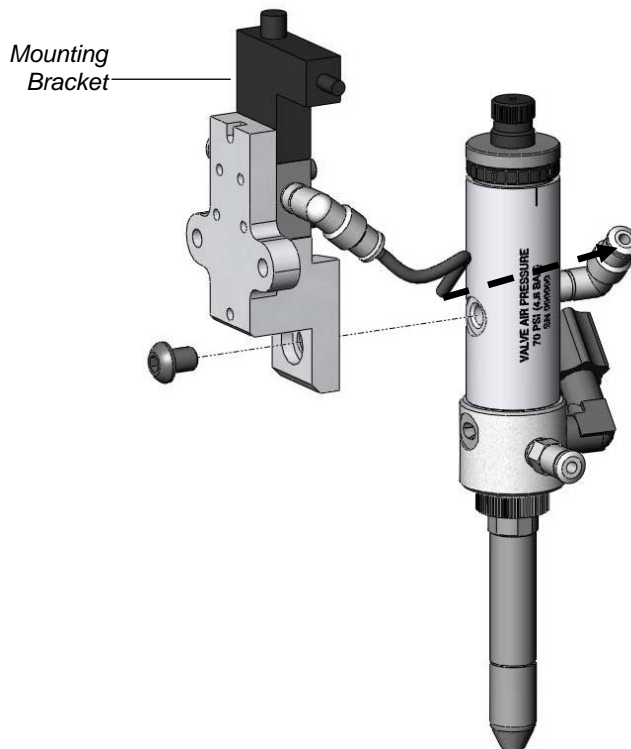

Figure 3-1 Installing the SC-300
1. If not assembled, connect the SC-300 to the valve mounting bracket using the M6 button-head cap screw and connect the black hose from the solenoid to the SC-300 as shown in Figure 3-1.